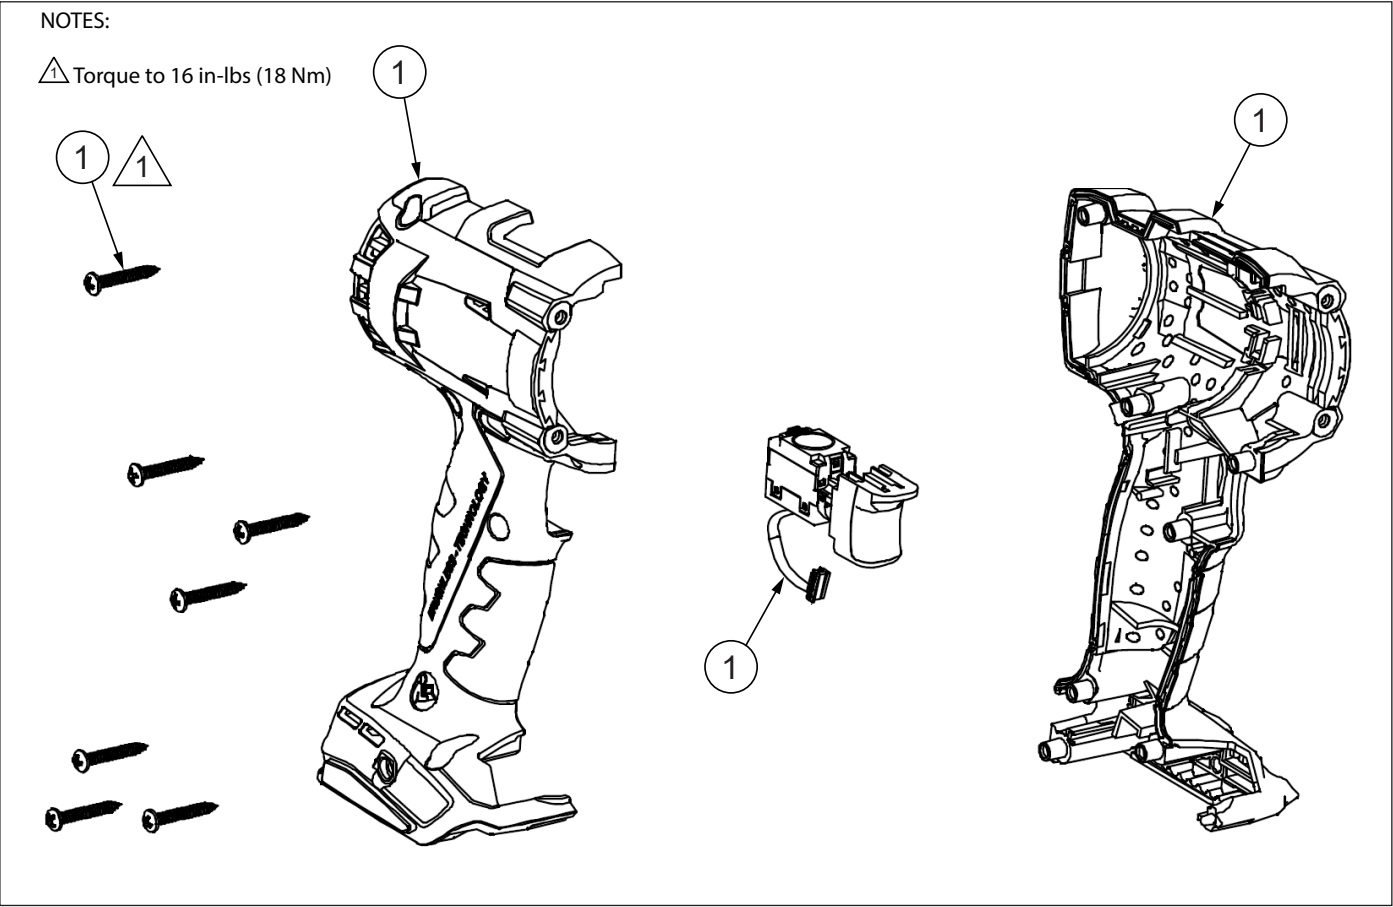

Figure 7: Handle Repair Kit
9.2.1 Table of Parts (Figure 7)